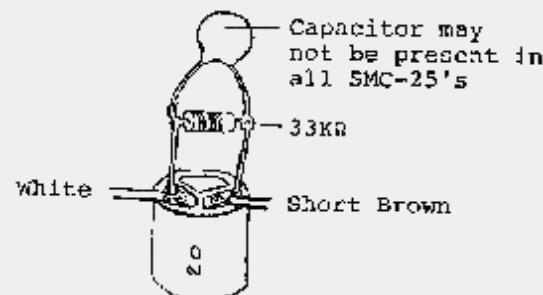

Figure 1
1. Disassemble the radio and inspect the board to the right of the REV/NOR SW. Using a small flat blade screwdriver or similar tool, gently pry the short metal jumper and the metal body switch tab apart. This should clear the offset trouble. (Fig.1)